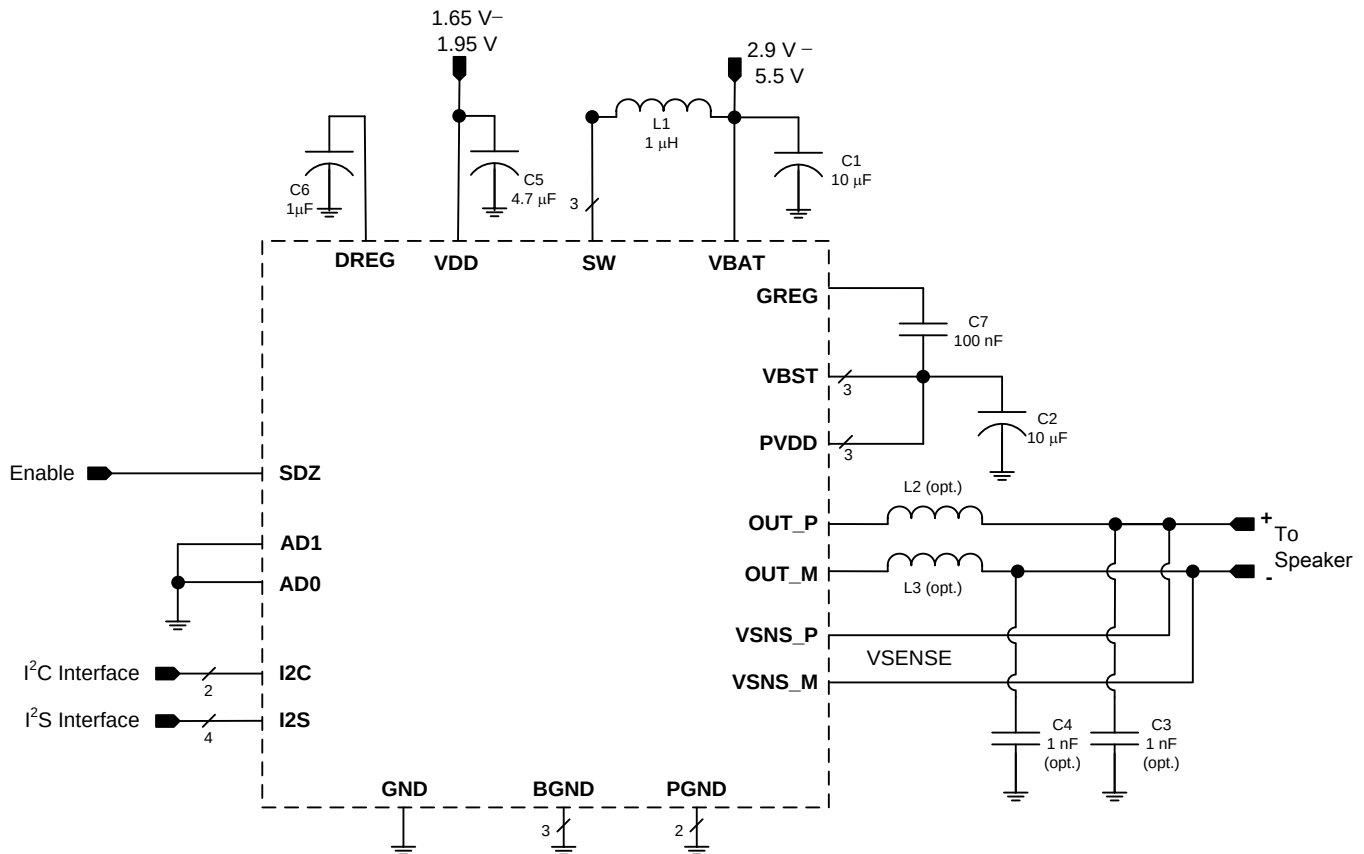

图 69. Typical Application - Digital Audio Input
The boost converter requires three passive devices that are labeled L1, C1 and C2 in 图 69 and whose specifications are provided in 表 298. These specifications are based on the design of the TAS2562 and are necessary to meet the performance targets of the device. In particular, L1 should not be allowed to enter in the current saturation region. The saturation current for L1 should be > ILIM to deliver Class-D peak power.
The TAS2562 supports edge-rate control to minimize EMI, but the system designer may want to include passive devices on the Class-D output devices. These passive devices that are labeled L2, L3, C3 and C4 in 图 69 and their recommended specifications are provided in 表 298. If C3 and C4 are used, L2 and L3 must also be installed, and C3 and C4 must be placed after L2 and L3 respectively to maintain the stability of the output stage.
The boost supply (VBAT) and associated passives need to be able to support the current requirements of the device. By default, the peak current limit of the boost is set to 4A. Refer to 表 92 for information on changing the current limit. A minimum of a 10 µF capacitor is recommended on the boost supply to quickly support changes in required current. Refer to 图 69 for the schematic.
- Use supply decoupling capacitors as shown in 图 69 and described in Power Supplies.